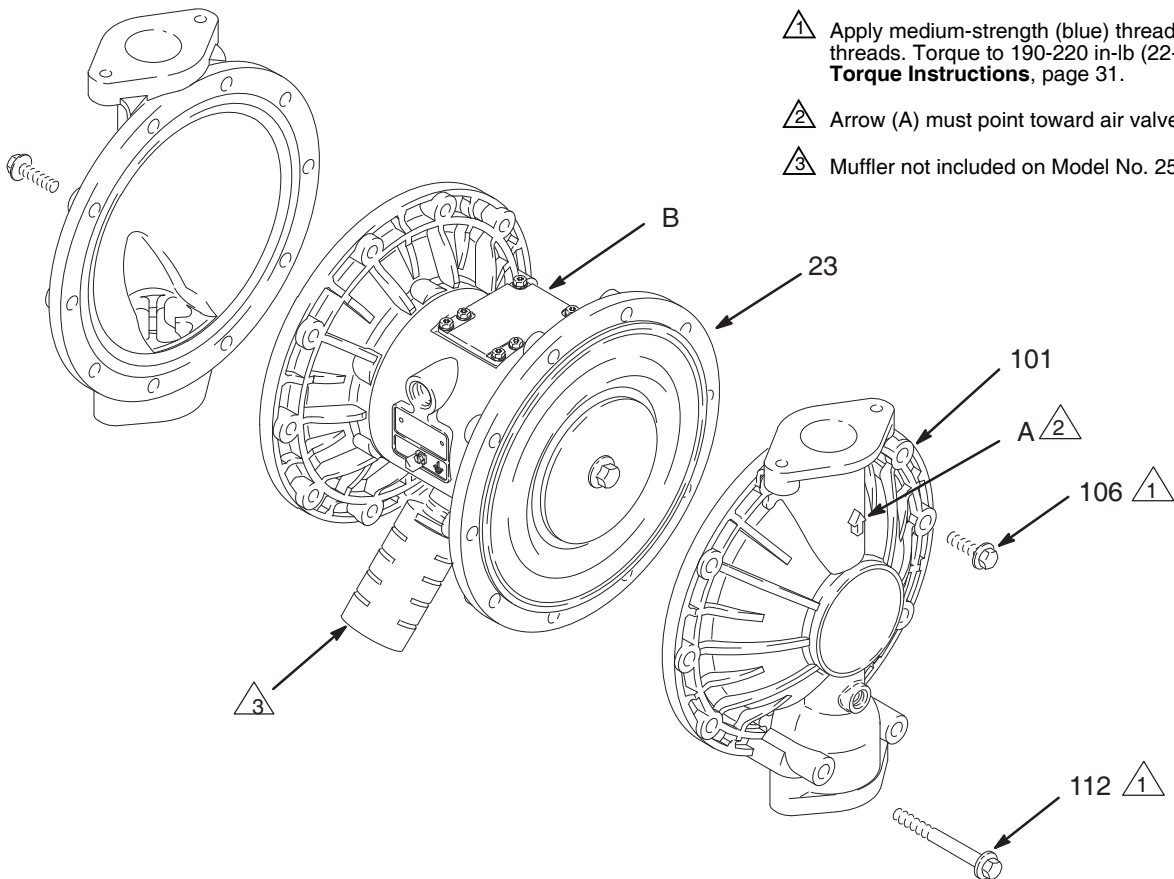

FIG. 11
3. Using a 13 mm socket wrench, remove the screws (106 and 112) holding the fluid covers (101) to the air covers (23). Pull the fluid covers (101) off the pump. See FIG. 11.
- a. Install the o-ring (108*) on the shaft bolt (107).
- b. Install the fluid side diaphragm plate (105) on the bolt so the rounded side faces in, toward the diaphragm (401).
- c. *On PTFE models only*, install the PTFE diaphragm (403*). Make certain the side marked AIR SIDE faces the center housing (1).
- d. Install the diaphragm (401*) on the bolt. Make certain the side marked AIR SIDE faces the center housing (1).
- e. Install the air side diaphragm plate (104) so the recessed side faces the diaphragm (401).
- f. Apply medium-strength (blue) thread locker to the bolt (107) threads. Screw the bolt (107) into the shaft (24) hand tight.
- g. *For overmolded diaphragms:* Assemble the air side plate (104) onto the diaphragm (403). The wide, radiused side of the plate must face the diaphragm. Apply medium-strength (blue) thread locker to the threads of the diaphragm assembly. Screw the assembly into the shaft (24) hand tight.
3. Grease the length and ends of the diaphragm shaft (24), and slide it through the housing (1).
5. Hold one shaft bolt (107) with a wrench and torque the other bolt to 20-25 ft-lb (27-34 N•m) at 100 rpm maximum. *NOTE: This step does not apply to pumps with overmolded diaphragms.*
6. Align the fluid covers (101) and the center housing (1) so the arrows (A) on the covers face the same direction as the air valve (B). Apply medium-strength (blue) thread locker to the threads of screws (106) and (112), and secure the covers with the screws handtight. Install the longer screws (112) in the bottom holes of the covers. See Fig. 11. Using a 13 mm socket wrench, torque the screws oppositely and evenly to 190-220 in-lb (22-25 N•m). See **Torque Instructions**, page 31.